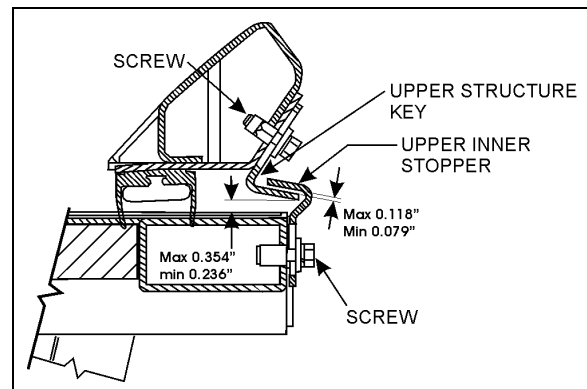

FIGURE 4: UPPER INNER STOPPERS ADJUSTMENT
- Adjust the upper structure key and the upper inner stoppers according to FIGURE 4 with the seal deflated. When inflating, the seal presses the roof structure upward and at